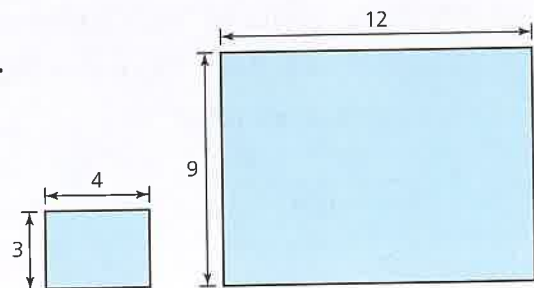

Figure 2.4 Scaling area
Figure 2.4 helps to prove this point.
- a** If the width of the large rectangle in Figure 2.4 is increased to 20 mm, what will the height be?
- 1** The area of the large rectangle in Figure 2.4 is scaled up to 200 mm^2 . Calculate the lengths of the new sides.
- 3** The large rectangle in Figure 2.4 is made of cotton fabric and costs 15 pence. A scaled-up version of the rectangle of fabric costs £2.10. What are its dimensions?